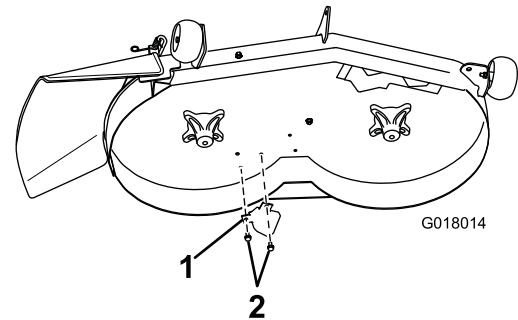

Figure 6
5. Install the kicker to the underside of the mower deck using 2 self-tapping screws (5/16 x 3/4 inch) at the location shown in Figure 6.